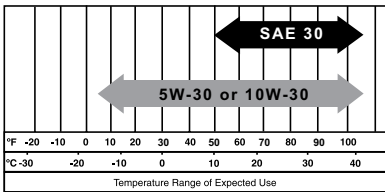

Figure 2-2. Recommended Oil
4. See Figure 2-2. Add recommended engine oil to the bottom of the oil fill hole (A).
See Figure 2-2. Climate determines proper engine oil viscosity.